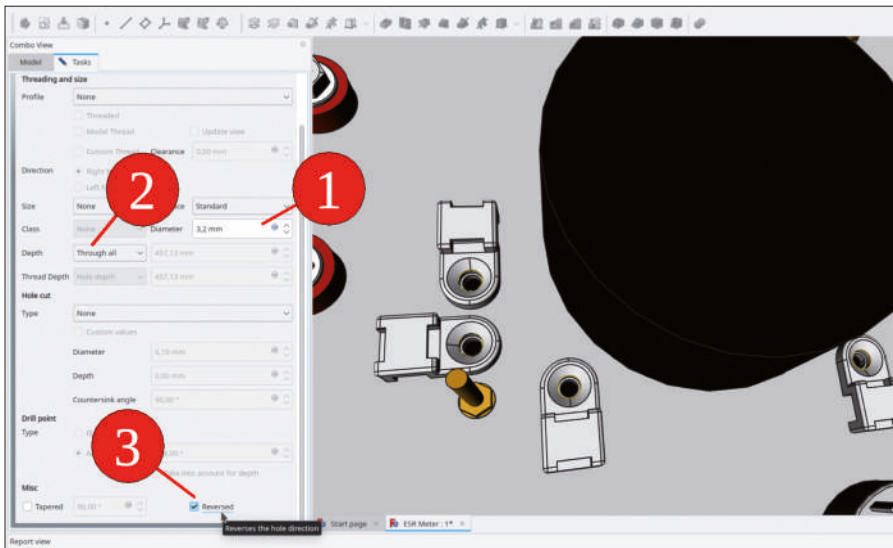

Figure 7-50
14. In the task window, enter a diameter of 3.2 mm and select 'Through all' for the depth. Check the 'Reversed' checkbox (Figure 7-50). Close the task window with the 'OK' button.